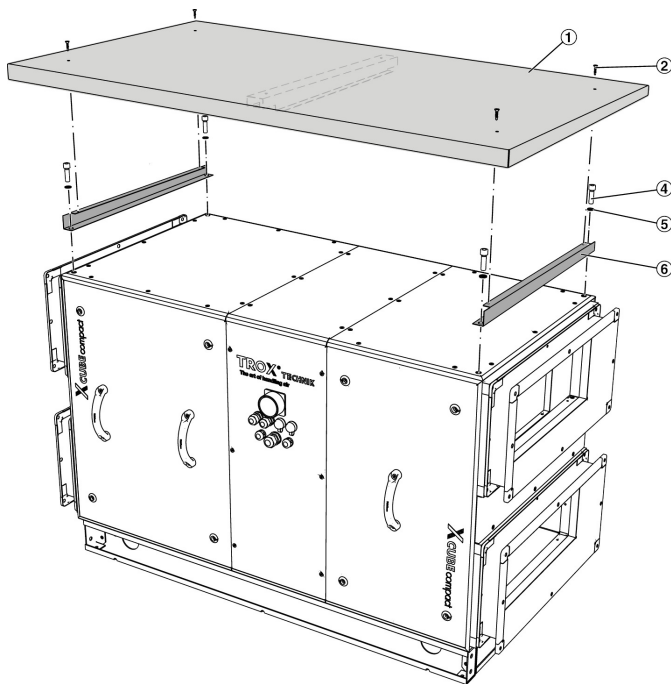

Fig. 18: Roof assembly
2. ▶ If any lashing points have been fitted to the top corners of the AHU, remove them now. Fix the left and right roof supports ( Fig. 18 /6) each with two cheesehead screws ( Fig. 18 /4) and seals ( Fig. 18 /5) to the top corners of the AHU.
3. ▶ Place the roof ( Fig. 18 /1) with the roof supports facing down onto the air handling unit and fix it with the self-tapping screws ( Fig. 18 /2).